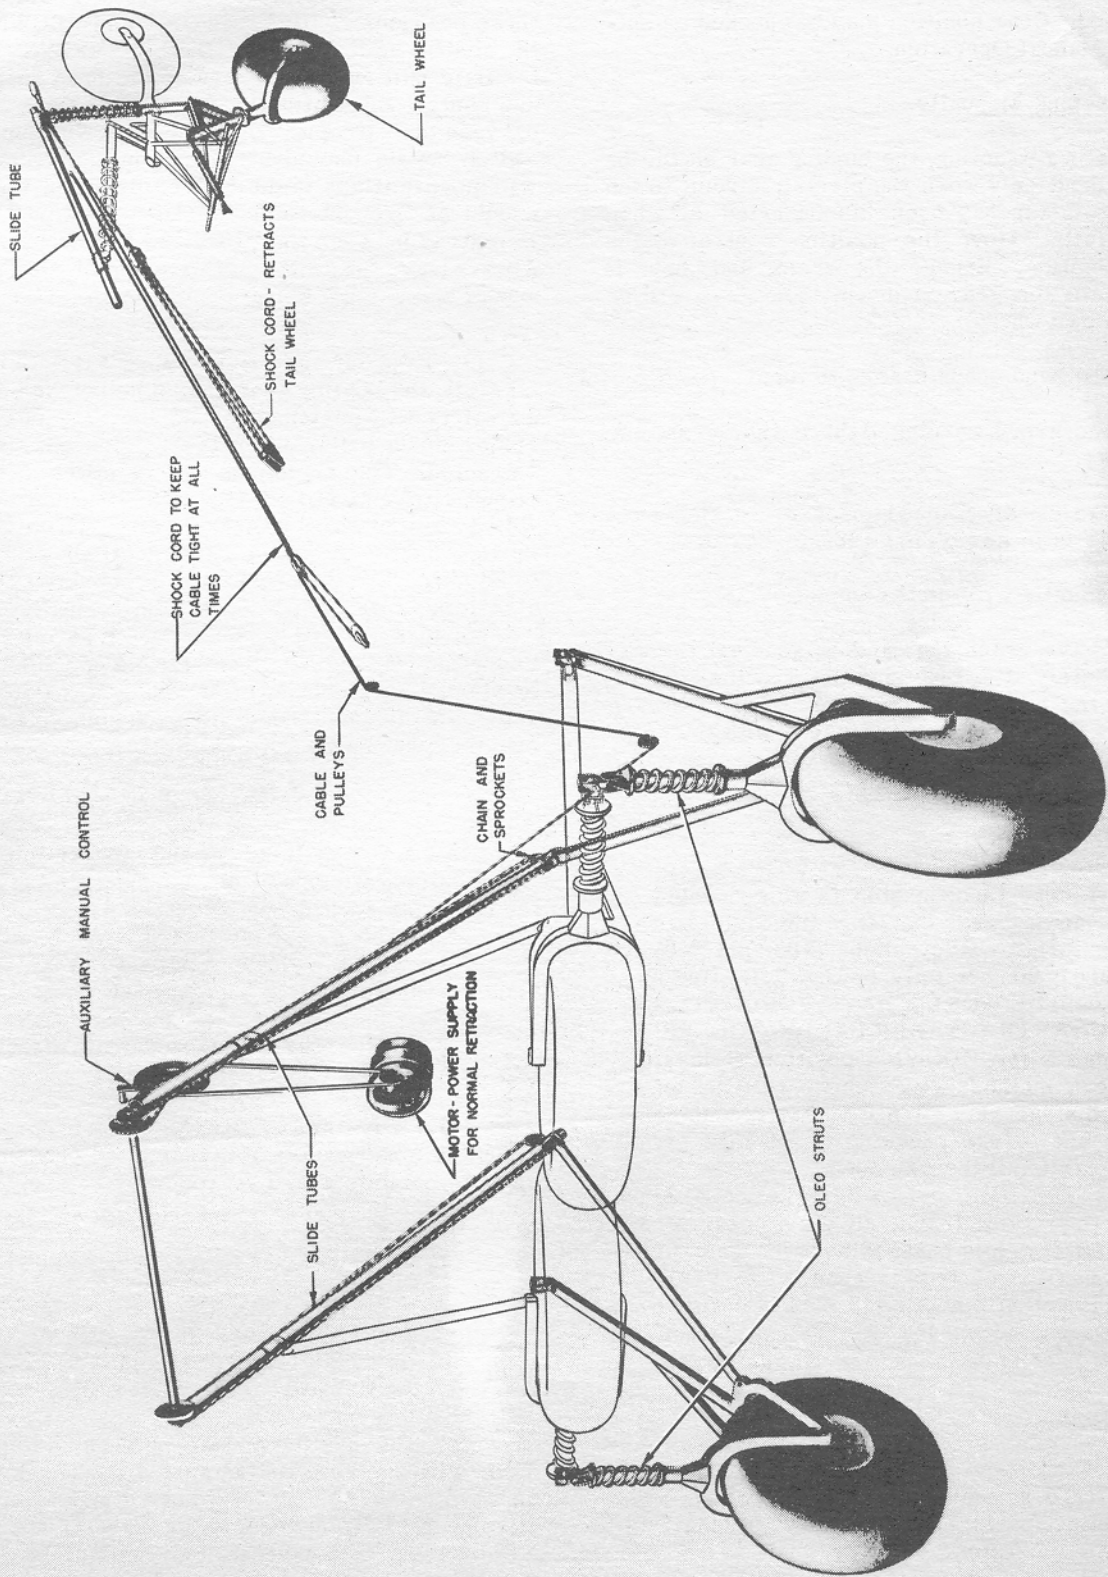

Figure 3 - Landing Gear
c. Landing Gear. (See figure 3.) - The landing gear consists of two main landing wheels and a tail wheel. Retraction and extension are accomplished electrically and provision is made for emergency manual operation by means of a hand crank. Operation of the landing gear position control raises or lowers all three wheels at the same time.